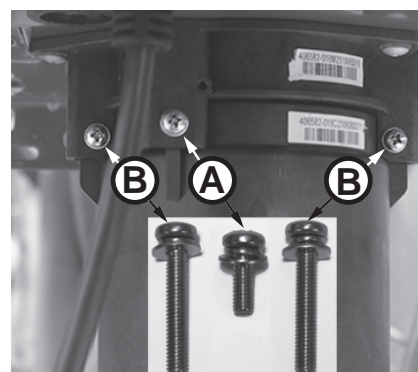

Figure 220 - Identify cartridge screws
- 6 Locate the three (3) screws securing the X3®/Bypass cartridge as shown in Figure 220. Remove the **(A)** M4-12mm screw and the two **(B)** M4-25mm screws from cartridge. Place screws aside in a safe place for reinstallation.